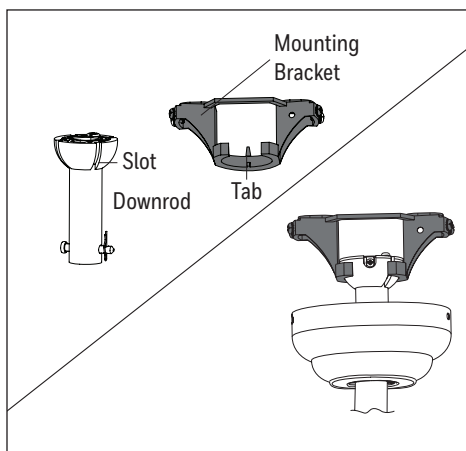

Figure 3.4
4. Install the ball end of the downrod into the opening of the mounting bracket (Figure 3.4). **WARNING:** Failure to align the slot in the ball with the tap on the mounting bracket may cause the fan to fall, which could result in injury or death.